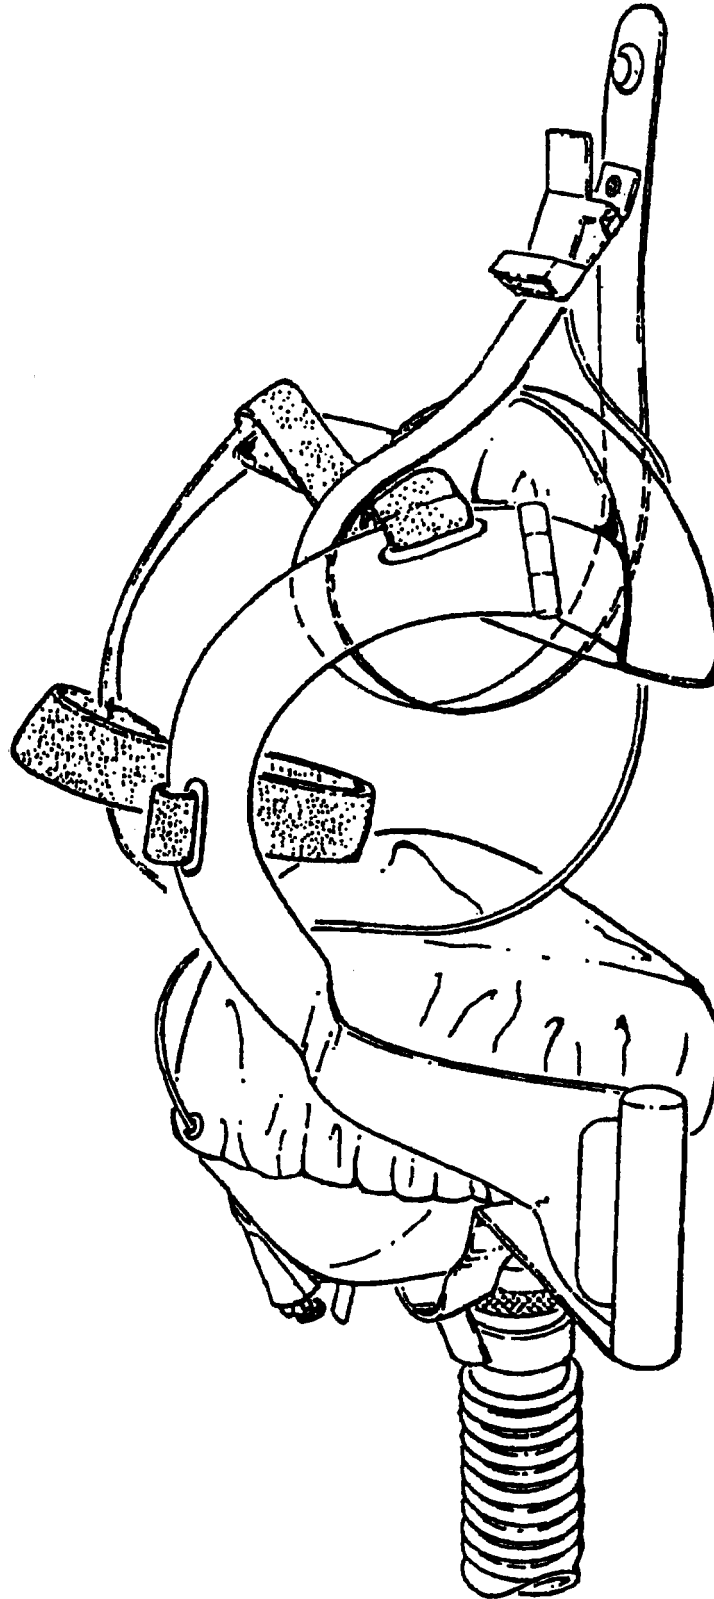

Figure 11-3. Folding, Quick-Donning Oxygen Mask in Holder Assembly
3. After sanitizing, place dust cover over facepiece and attach suspension strap to bracket and pad assembly (figure 11-3). If mask assembly is not to be placed in immediate service, store in accordance with paragraph 11-33.